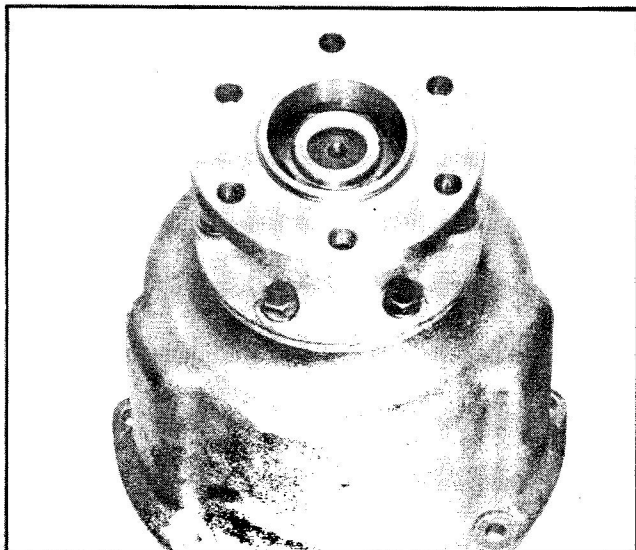

Fig. 72 Coupling and Nut Installed
4. Install front bearing cone and inner race over output shaft, then bearing spacer over shaft and seat into position, (Fig. 72).
5. Install output shaft into reduction housing and replace coupling and output shaft nut. Tightening nut will draw bearing and shaft into position, (Fig. 72).
4. Install output shaft into reduction housing and replace coupling and output shaft nut. Tightening output shaft nut will draw bearing and shaft into position, (Fig. 72).